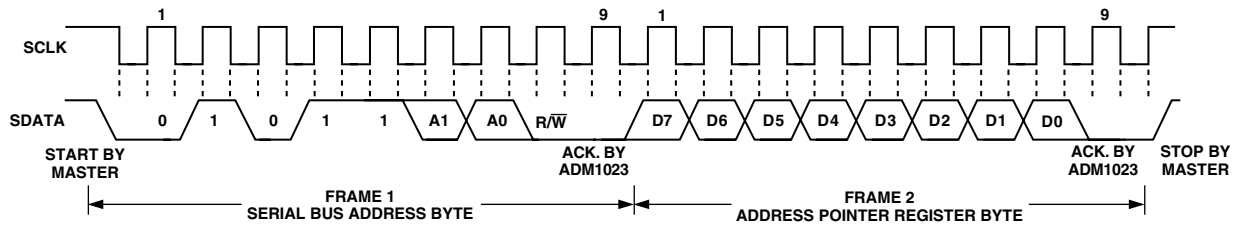

Figure 15. Writing to the Address Pointer Register Only
as before, but only the data byte containing the register read address is sent, as data is not to be written to the register. This is shown in Figure 15.
A read operation is then performed consisting of the serial bus address, $R/\bar{W}$ bit set to 1, followed by the data byte read from the data register. This is shown in Figure 15.
2. If the Address Pointer Register is known to be already at the desired address, data can be read from the corresponding data register without first writing to the Address Pointer Register, so Figure 15 can be omitted.